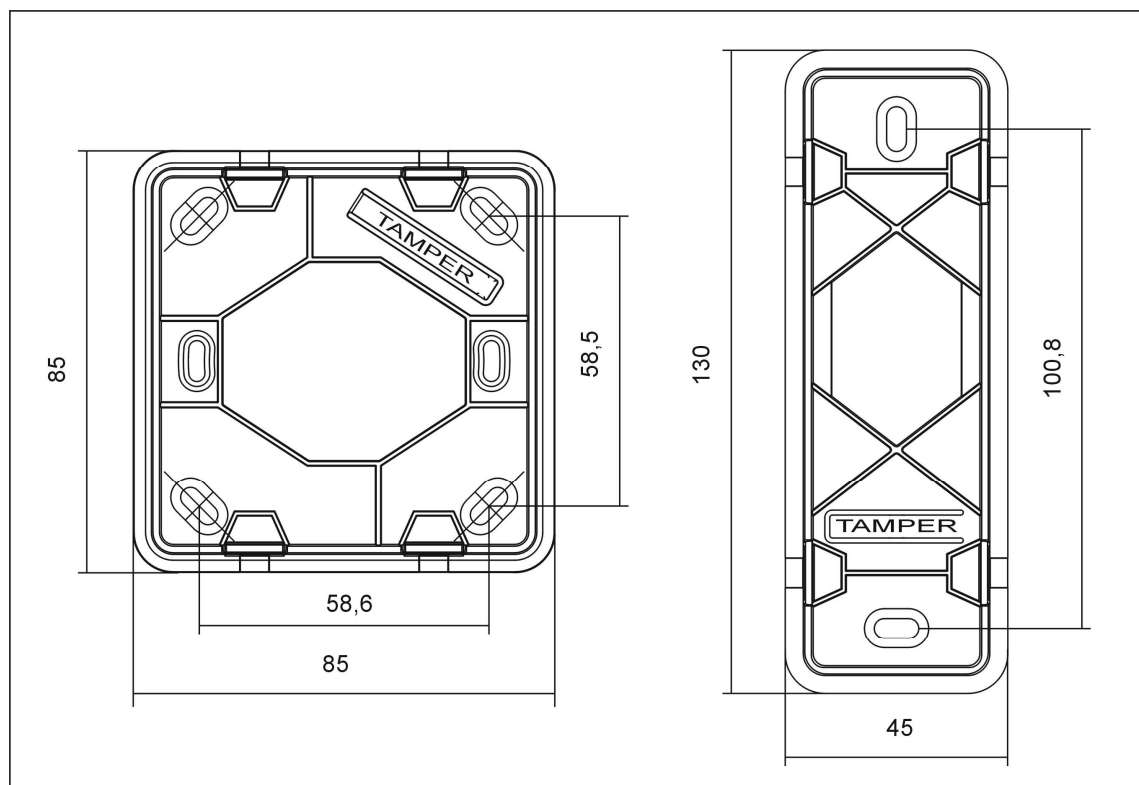

Fig. 8 Dimensions and location of Tamper lever
- The rear panel should be mounted with use of delivered screws with orientation shown on Fig. 8 so that tamper lever leans on the surface and presses the tamper switch